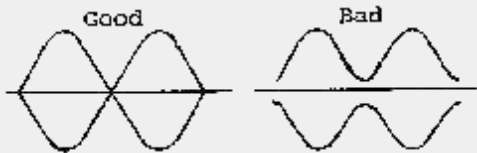

Figure 2
(PCB coordinate C-1, see figure 2.)
7. Adjust TC4 (CAR1 8.8315 KHz for USB) so that complete tone waveform is observed, as shown in figure 2. Return to REC, and resolder D124.
9. Set STBY to SEND and adjust TC3 (CAR2 8.375MHz) so that a complete two tone signal is displayed, as in Figure 2.